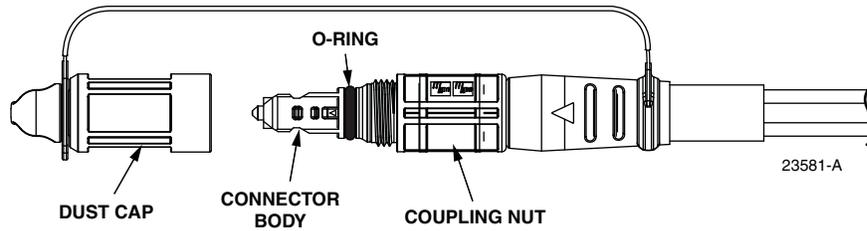

Figure 13. Drop Cable Connector Components
The basic components of the drop cable connector are shown in Figure 13. The connector coupling nut threads onto the dust cap. The O-ring on the connector body provide a water tight seal when the dust cap is in place. A pulling eye is provided in the end of the dust cap for pulling the drop cable. Do not exceed a pulling force of 100 lbs.
2. Unscrew the coupling nut from the drop cable connector dust cap (see Figure 13).
6. Thread the drop cable connector coupling nut into the drop cable dust cap and tighten until finger tight (see Figure 13).